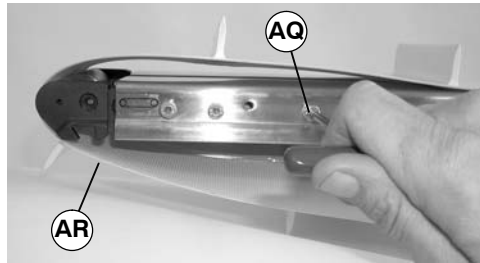

Figure 23
- Remove conveyor belt (AR of Figure 23).
6. Remove conveyor belt (AR of Figure 23).
2. Slide belt (AR of Figure 23) onto the conveyor frame assembly.
2. Slide belt (AR of Figure 23) onto conveyor frame assembly.